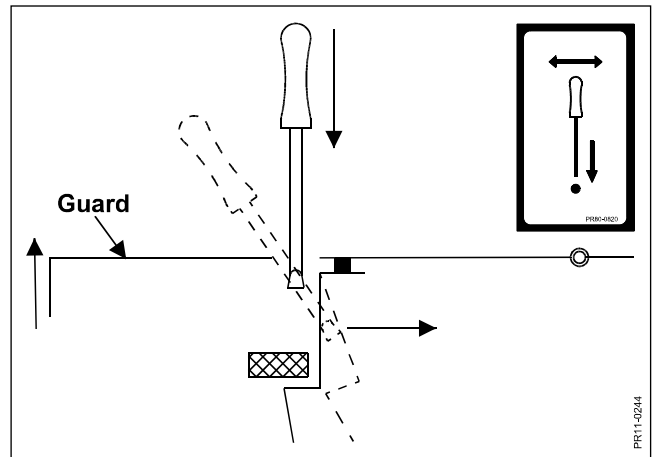

Fig. 7-2
**Fig. 7-2** For safety reasons all guards have been equipped with a lock. The lock ensures that the guard cannot be opened without using tools. Fig. 7-1 and 7-2 show the two different locking principles and the corresponding transfers which indicate and illustrate the locks on the machine.